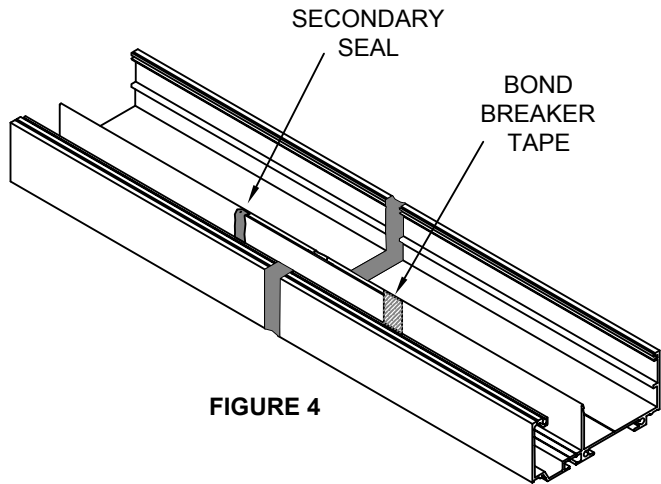

FIGURE 4
- STEP D:** Apply bond breaker tape over the joint between the splice and receptor on the bead of non-skinning, non-hardening sealant side of splice. (Figure 3) Apply silicone sealant over the bond breaker tape to create a water tight joint as shown. (Figure 4)